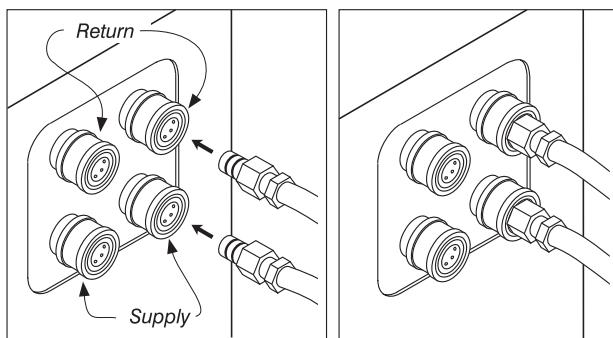

Figure 5—Quick-disconnects
- I. Attach one quick-disconnect fitting to the **upper** machine connection and one to the **lower** (fig. 5, p. 7). Push each retaining collar toward the cabinet and insert the quick-disconnect fitting firmly. While holding the fitting, allow the retaining collar to snap back into position. Check to make sure the fitting is fully engaged by tugging firmly on the hose.